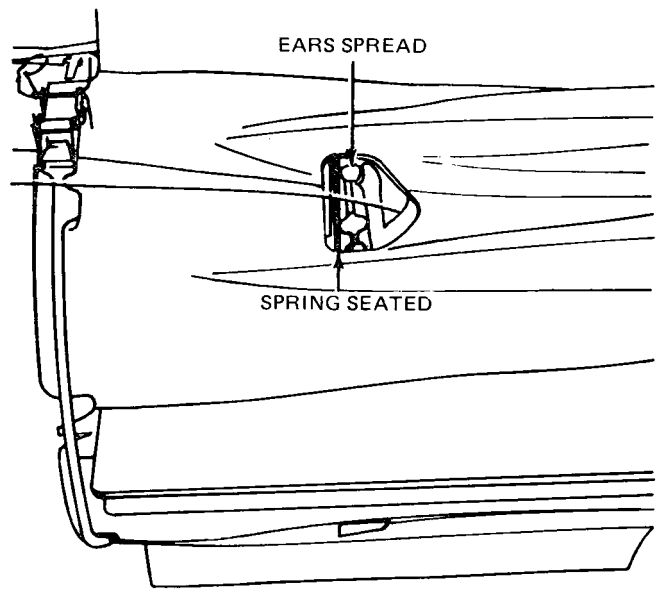

Figure 3-36. Garter Spring Seated between Bomb and Flange
17. Feed spring into space between bomb and fin. After this is done, pull fin back, allowing garter spring to contact and seat in gap between bomb and fin support (figure 3-36). A few shakes on fin will aid in seating spring.
9. Allow retaining ring to snap into semicircular groove in fin support (figure 3-36). This locks fin to bomb body.
12. Feed spring into space between bomb and fin. After this is done, pull fin back, allowing garter spring to contract and seat in gap between bomb and fin support (figure 3-36). A few shakes of fin will aid seating spring.